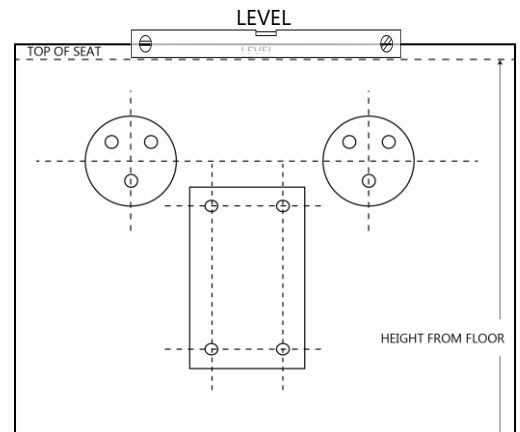

Figure 1
1. Place the **Installation template** against the wall at the desired height. Align your level along the line marking the top of the seat (see Fig 1) and adjust the template so that it is level. It is recommended to mount the seat approximately 17"-19" above the floor, however the mounting height can vary slightly depending on personal needs or preference. Once leveled, secure the template to the wall using painter's tape (or similar) and mark all 10 holes for drilling.